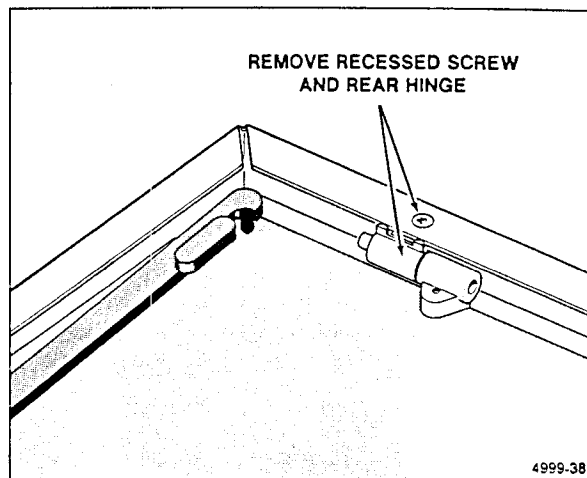

Figure 6-8. Recessed screw and rear hinge removal.
13. Remove both the recessed screw and the chassis mounted rear hinge nearest to the Board Latch from the instrument (see Figure 6-8 for removal of the chassis recessed screw and hinge).